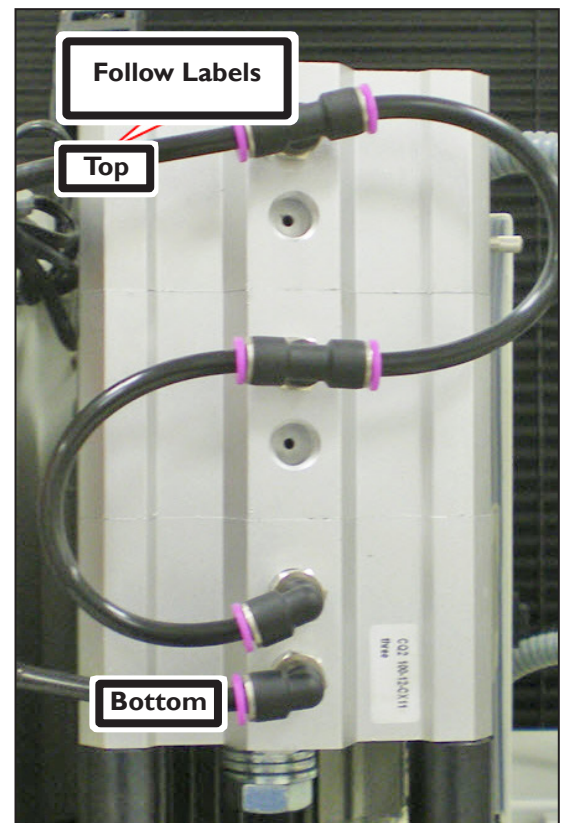

Figure 21
- Connect the air lines as shown in **Figure 21**.